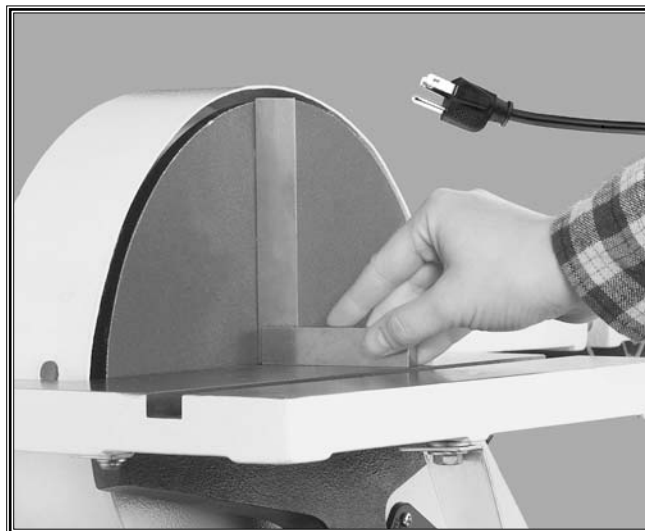

Figure 29. Checking table alignment.
2. Using a 90° square, adjust the working table so it is perpendicular to the sanding disc as shown in **Figure 29**.